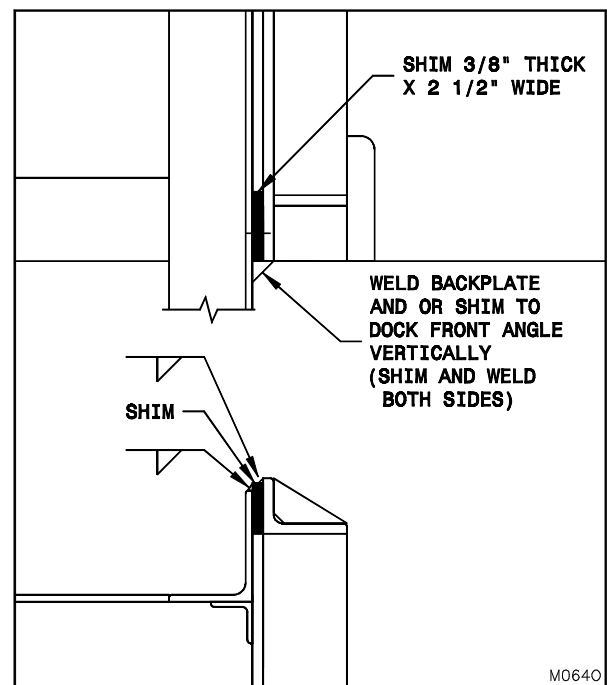

Figure 9: Back Plate is Higher than Dock Front Angle
m) If the back plate of the restraint is higher than the front angle of the dock leveler, shim between the top angle of the back plate and the front angle of the dock leveler and weld the shim to both as shown in "Figure 9: Back Plate is Higher than Dock Front Angle" on page 13.